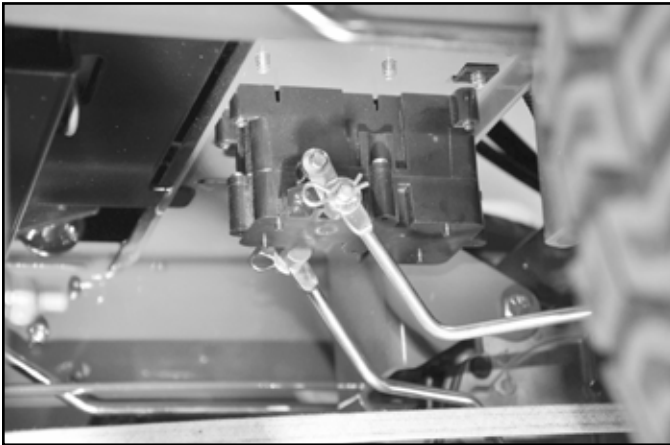

Fig. 060
6. Remove the brake rod from the brake actuator module (Fig. 060). See “Brake Actuator Module” on page 7-6.